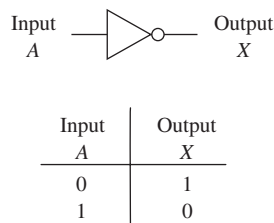

Figure 3-27 Inverter symbol and truth table.
The inverter is used to complement, or invert, a digital signal. It has a single input and a single output. If a HIGH level (1) comes in, it produces a LOW-level (0) output. If a LOW level (0) comes in, it produces a HIGH-level (1) output. The symbol and truth table for the inverter gate are shown in Figure 3-27. (*Note:* The circle is the part of the symbol that indicates inversion. The inversion circle will be used on other gates in upcoming sections.)